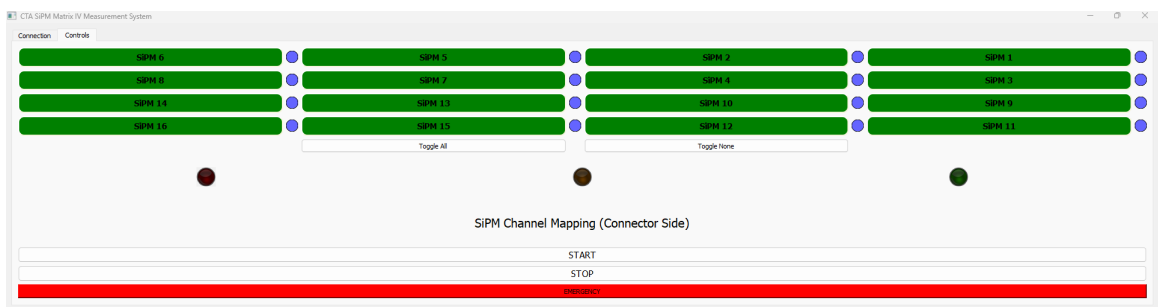

Figure 2: Controls tab
- **Controls Tab:** Allows users to toggle channels on and off, start and stop measurements, and use emergency controls. Diagnostic indicators provide feedback after measurements are completed. LEDs indicate ongoing measurements (fig 2).